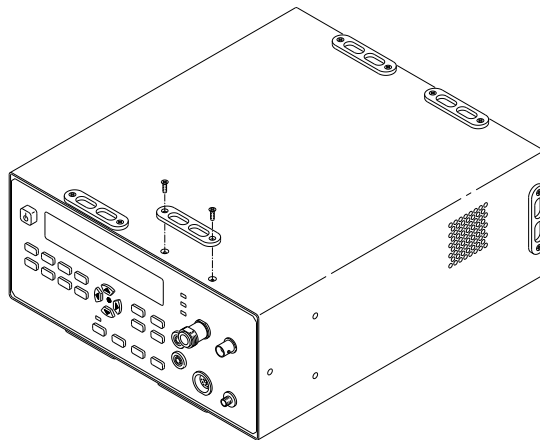

Figure 3-3 Removing the Bumper Retainers
- 2 Use a #1 Phillips screwdriver to remove the two 4-40 x 7/16-inch flathead machine screws that attach each bumper retainer to the chassis (see Figure 3-3).
- 4 Remove the four bumper retainers from the front end of the instrument (see Figure 3-3 and "Removing the Bumper Retainers" on page 95).